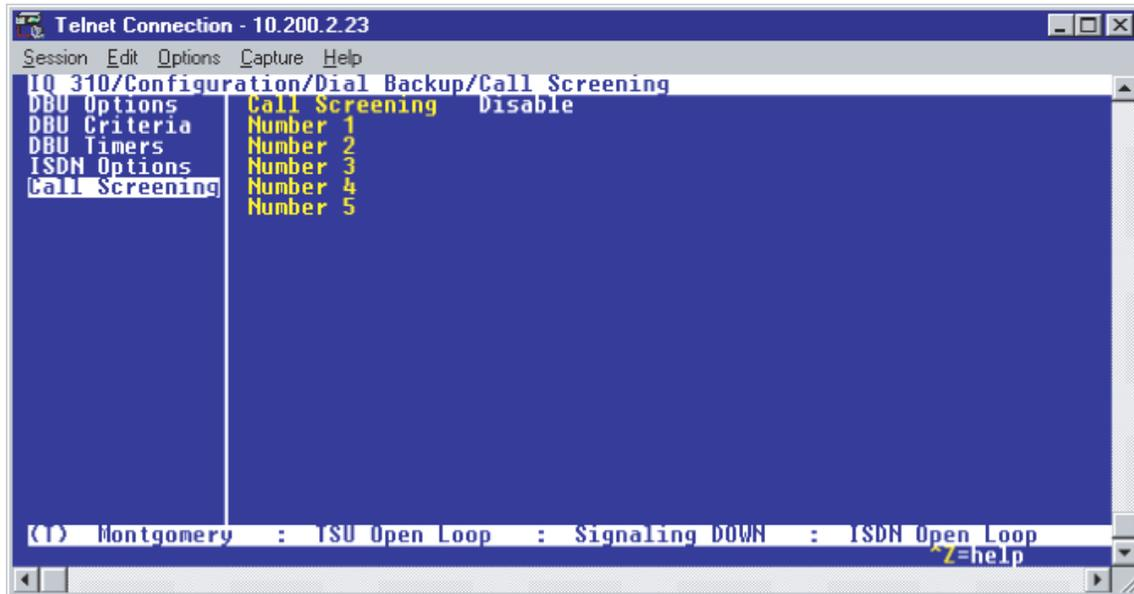

Figure 42. Call Screening Menu
1. Use the arrow keys to select **CALL SCREENING**; press **<ENTER>**. The menu screen shown in Figure 42 is displayed. The default values for the parameters on this screen are shown.